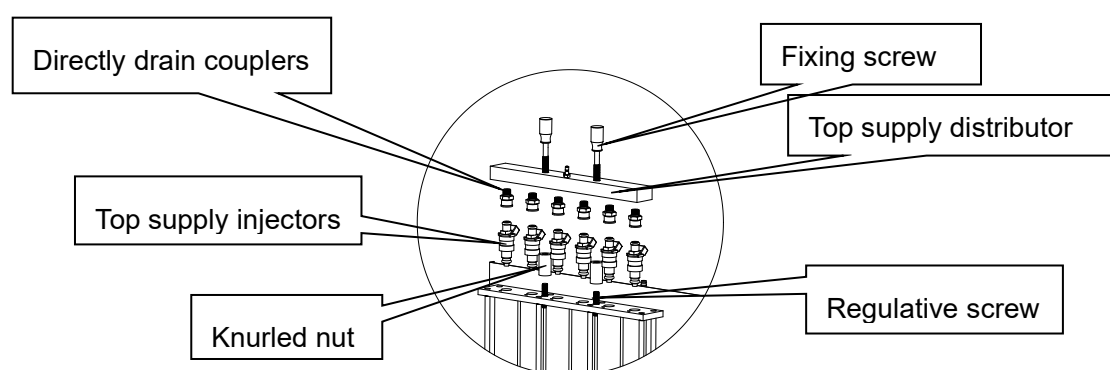
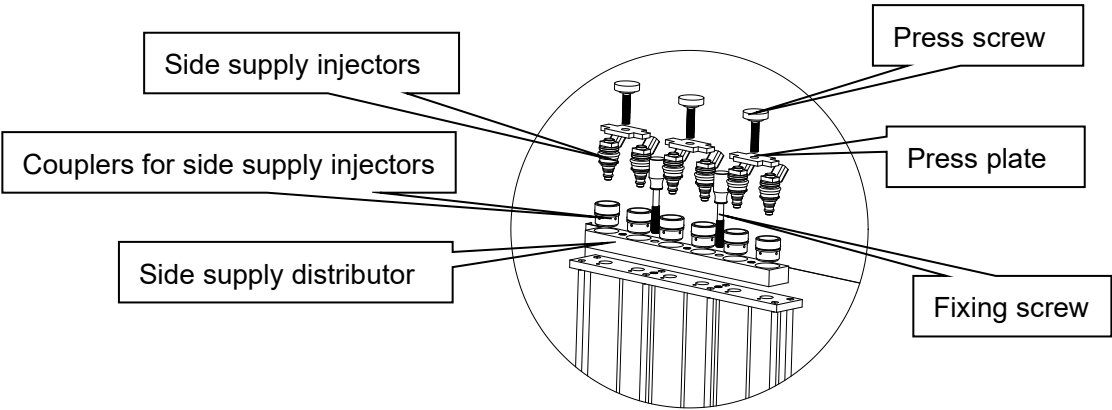

Fig 3
Fig 4
1)Mount the injectors on the machine as Fig.3 or Fig.4.
1) Mount the injectors on the machine as Fig.3 or Fig.4.